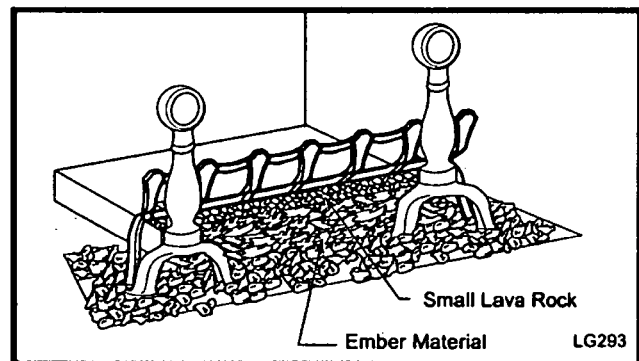

Fig. 43 Place ember material on burner tube. Place small lava rock 1½" on burner housing.
4. Place the ember material lightly in front over the burner tube. Cover the area between the burner tube and the burner pan assembly. (Fig. 43)